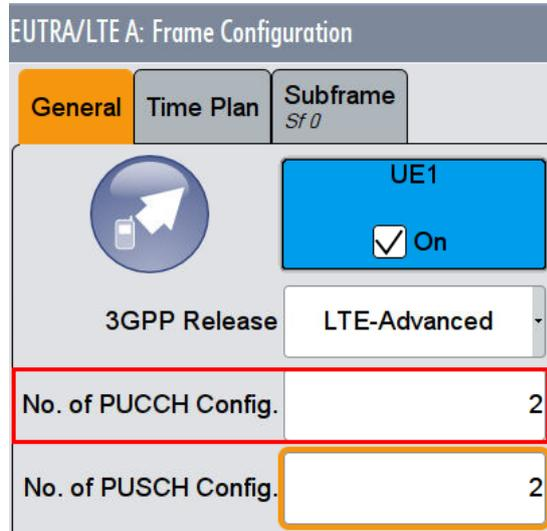

Fig. 3-84: Set two configurable PUCCH subframes
- Set **No of PUCCH Config** to 2 (Fig. 3-84).